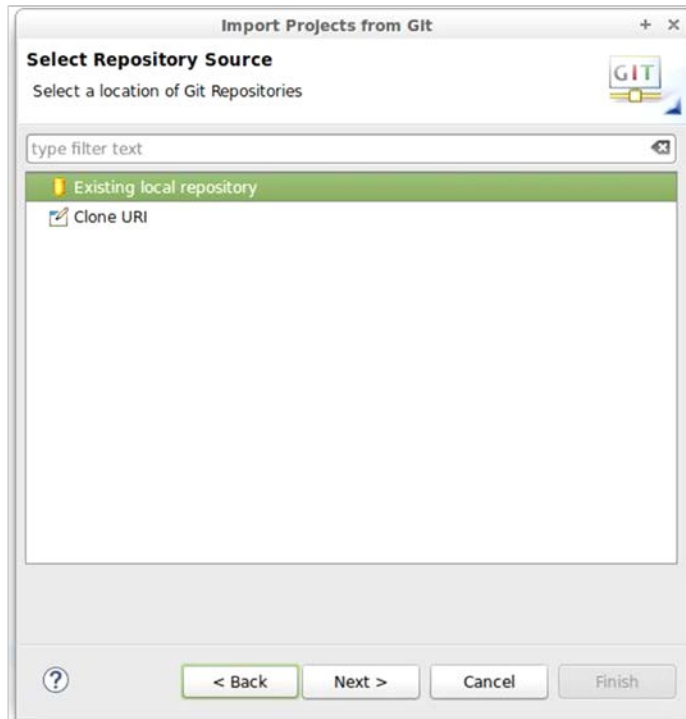

Figure 63: Checking Out VOLTTRON with Eclipse GitHub (continued)
3. As shown in Figure 63 select Clone URI -> Next >